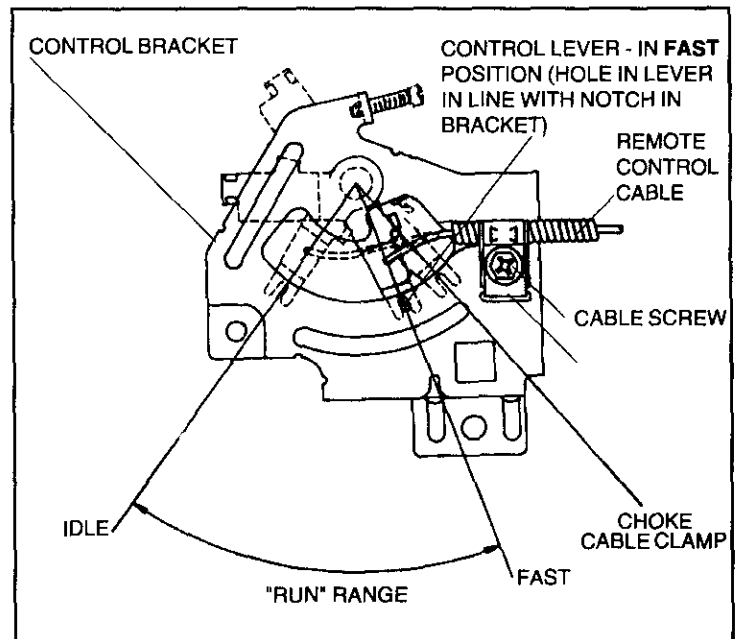

Figure 2
NOTE: If engine is remotely controlled, see equipment manufacturer's instructions for remote control positions which correspond to engine control positions in Figure 2.
A. Move engine control lever (see Figure 2) or equipment control to CHOKE or START.